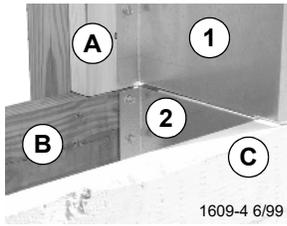

Figure 4. Sump End
1. First Install Bottom Bracket on sump end, by aligning the Bottom Bracket with side panels, see Figure 4.